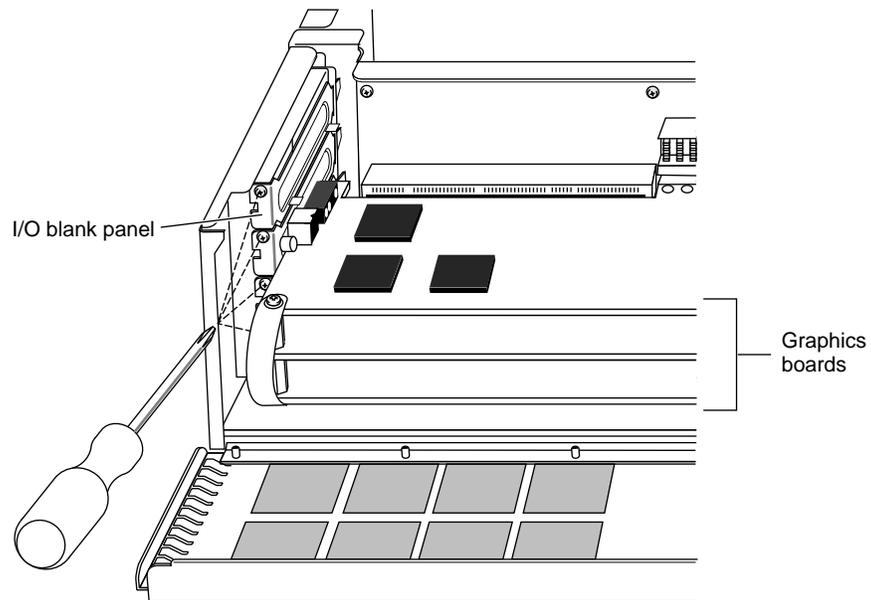

Figure 1-9 Removing the Slot Cover Screws
4. Remove the screws that attach the I/O blank panel and the graphics boards to the chassis. See Figure 1-9.